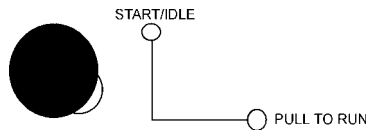

Figure 58. Engine Throttle Lever (low)
2. Turn the Engine Throttle Handle (Figure 58) to the left and push in to set the speed to 'low'.